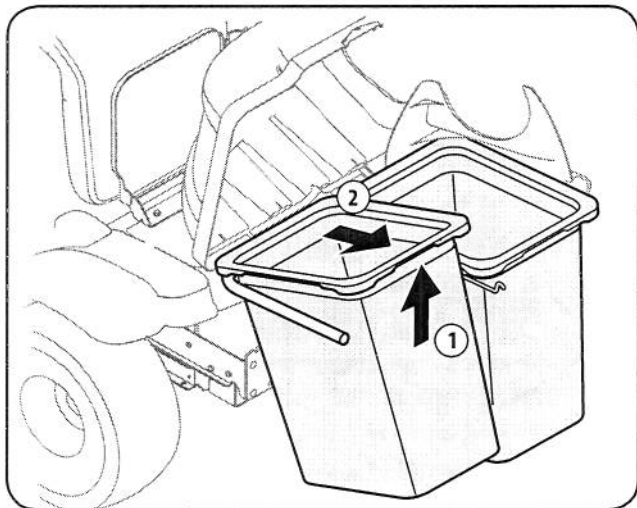

Figure 5-2
3. Remove the grass bags by lifting these up (1 in Fig. 5-2) and moving the bags away from the bag support assembly (2).